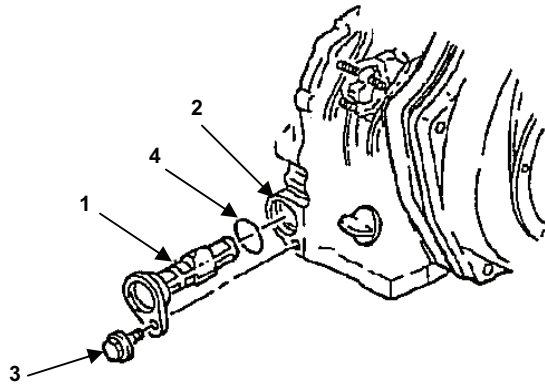

Figure 1. Oil Filter.
3. Remove oil filter (Figure 1, item 1) from the engine block (Figure 1, item 2) by removing bolt (Figure 1, item 3).
4. Remove O-ring (Figure 1, item 4) and discard.